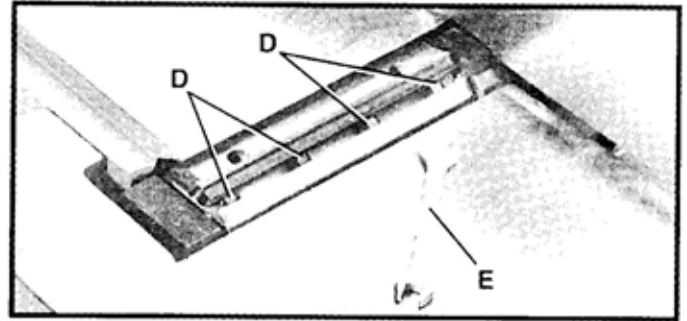
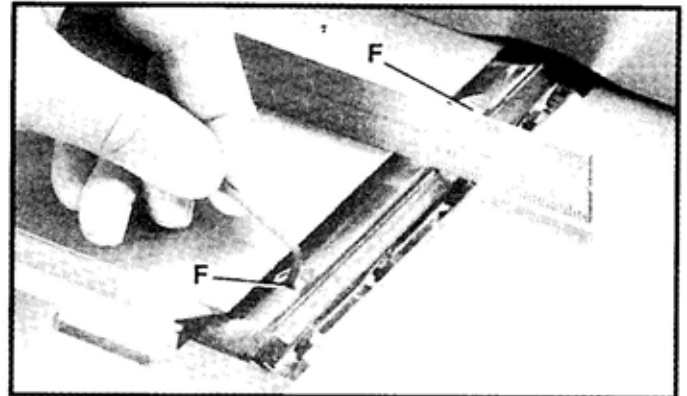

Fig. 41
Fig. 42
5. If the knife is high or low at either end, slightly turn the four screws (D) Fig. 41, in the knife locking bar clockwise to loosen using the wrench (E) supplied. Then adjust the height of the knife by turning the knife raising screws (F) Fig. 42, counterclockwise to lower and clockwise to raise the knife. NOTE: If the knife is to be lowered it will be necessary to carefully push down on the knife after screws (F) have been turned.